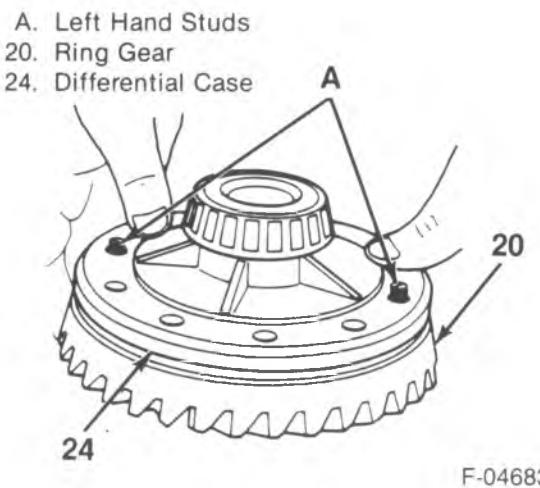

Figure 17—Ring Gear Studs
- 6. Ring gear (7) to the differential case (24).
- Thread two left-hand threaded studs into the ring gear on opposite sides (figure 17).